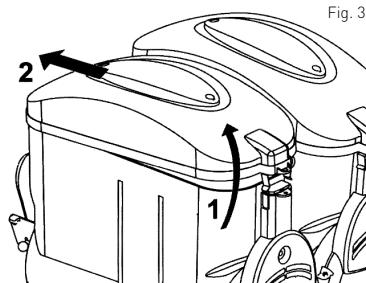

Fig. 3
- **WARNING:** Food ingredient should be poured into the bowl (2) only when the machine is OFF and unplugged from the electrical power supply.
- To remove the bowl lid (1) of the bowl (2), follow these instructions (See Fig. 3):
- 2) Extract the bowl lid (1) from the retainer placed at the front side.